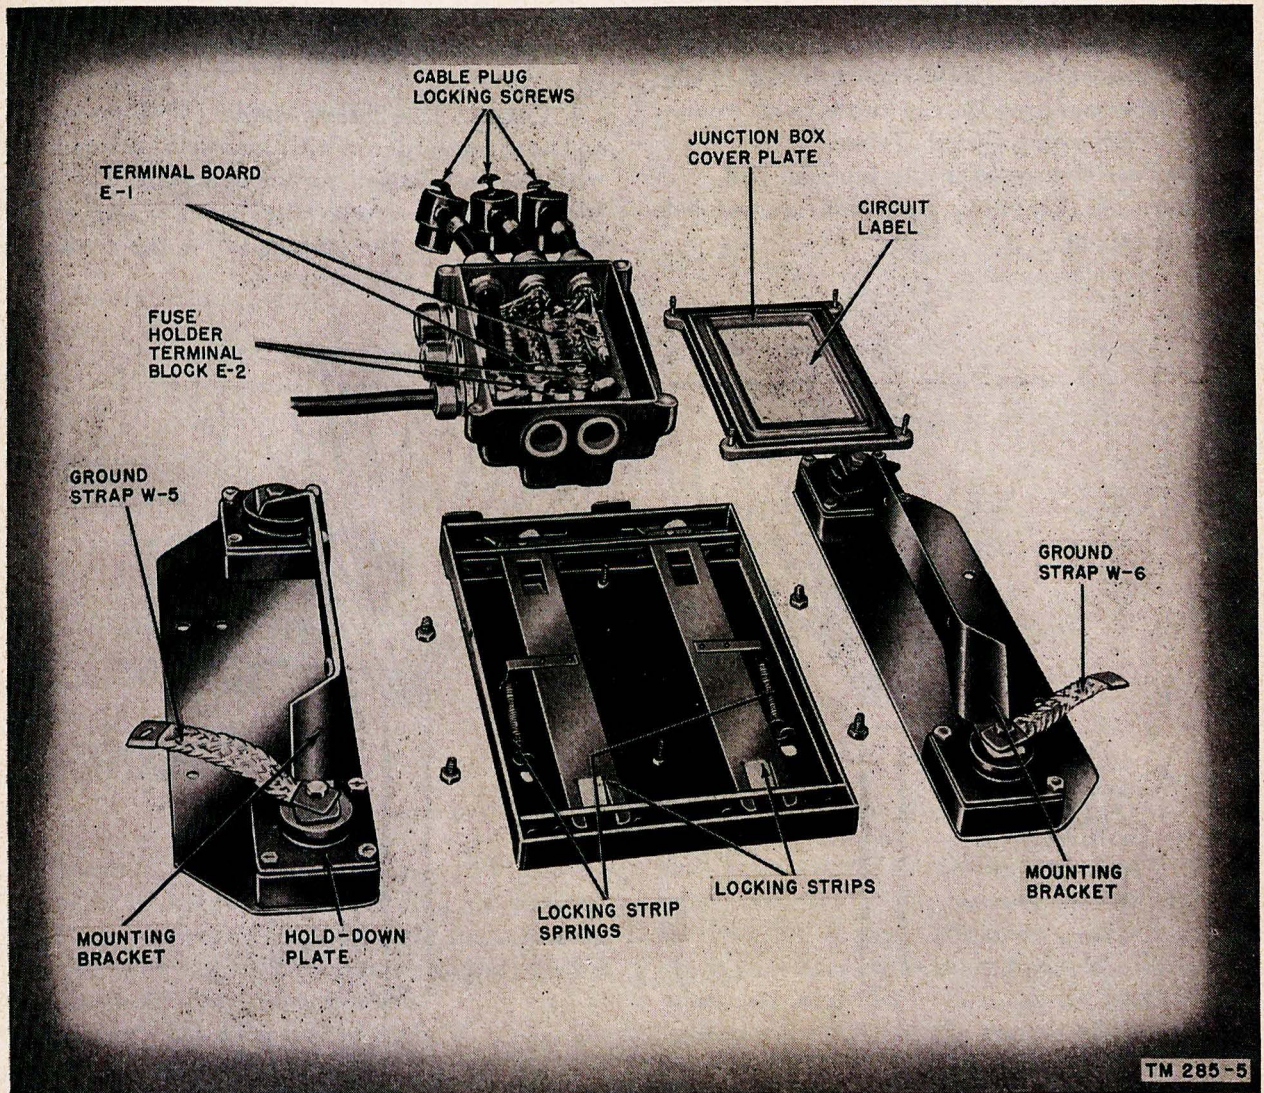

Figure 17. Mounting MT-300/GR, open view.
c. Turn the mounting upside down to allow easy access to the junction box, and remove the cover plate (fig. 17).
e. Loosen the bondnut on the cable clamp at one of the unused cable entries (fig. 17), preferably the
f. Insert the prepared end of the cable through the cable entry, and solder the individual conductors to the terminals of the terminal board E-1 in the junction box (fig. 17). (All conductors can be connected, even though some of them are not used.) Observe the color coding indicated in fig-
h. Before replacing the cover on the junction box, check the continuity of fuse F-1 and check the tightness of the solderless connectors, E-2 (fig. 17). Cable compression can cause these connectors to loosen over a period of time.